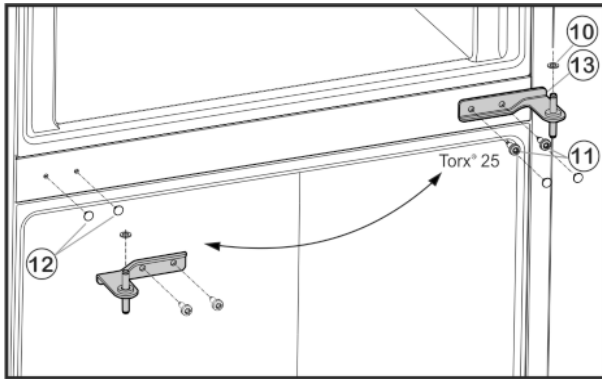

Fig. 5
- ▶ Unscrew the fastening screws *Fig. 5 (11)* (2 x Torx® 25) and pull the centre bearing block out of the lower door.
- ▶ Remove plastic washer *Fig. 5 (10)*.
- ▶ Carefully pull off the covers *Fig. 5 (12)* and fit to the opposite side.
- ▶ Insert the centre bearing block *Fig. 5 (13)* turned through 180° into the lower door and fasten firmly (**with 4 Nm**) to the new hinge side with the fastening screws (2 x Torx® 25).
- ▶ Refit plastic washer *Fig. 5 (10)*.